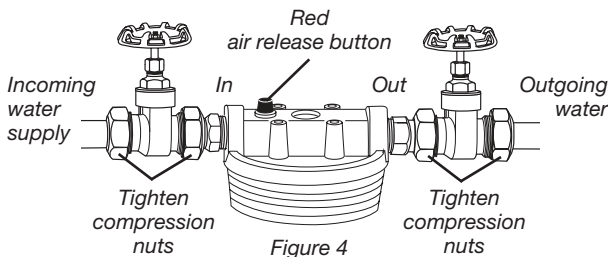

Figure 4
7. Fit filter head and gate shut-off valves onto pipe. Make sure the "IN" port with red air release button is connected to incoming water supply line. Tighten compression nuts on both sides of valves (see Figure 4). (Four locations.)